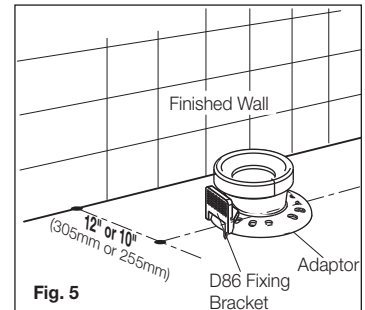

Fig. 5
- 3- Position offset adaptor onto 'T' bolts and wax seal. Place D86 bracket onto 'T' bolt and secure with nuts as detailed in **Fig. 5**, ensuring that the offset adaptor is positioned for 10" (255mm) rough in, as detailed in **Fig. 1-A** or for 12" (305mm) rough in, as detailed in **Fig. 1-B**.